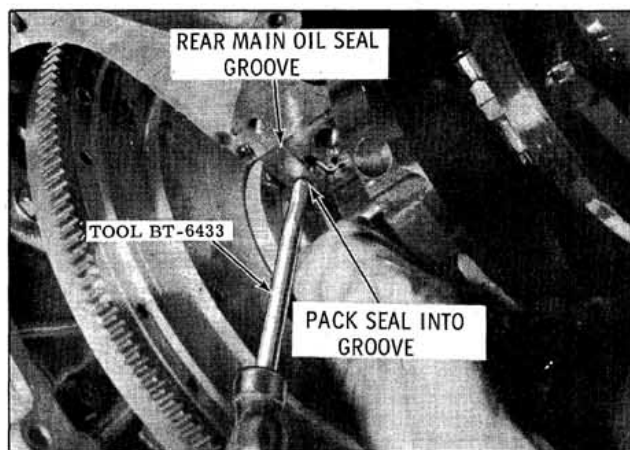

Fig. 3-106 Packing Old Seal
2. Insert Packing Tool BT-6433 or BT-6434 against one end of seal in cylinder block and drive the old seal gently into the groove until it is packed tight. This varies from 1/4" to 3/4" depending on the amount of pack required. (Fig. 3-106)